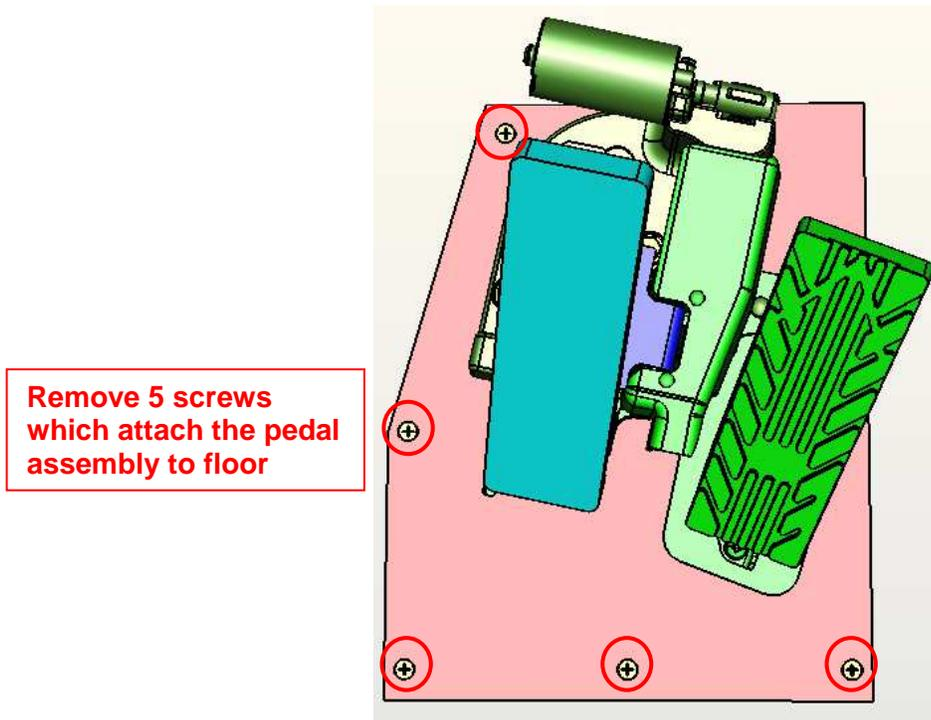

Figure 4: Remove Brake/Accelerator Treadle Assembly
14. Remove 5 screws which attach brake/accelerator pedal assembly to floor, see Figure 4.